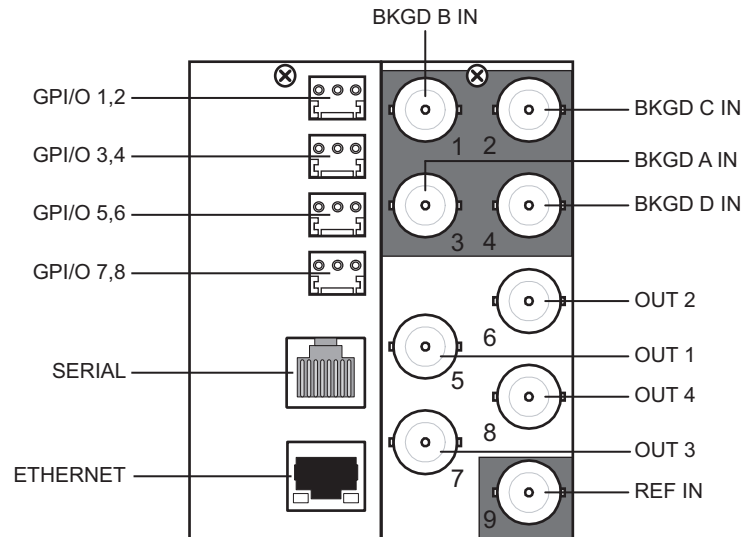

Figure 6 8320AR-033 Cable Connections
- the cabling designations for the 8320AR-033 rear module, refer to **Figure 6**.